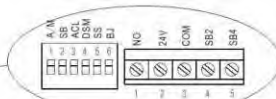

FIGURE 5. ATTACHING STRAIGHT TOWING ARM
- To access the Dipswitches and Accessory Connectors remove the Control Box cover (Figure.5) by first removing the fixing screw, located under the light cover and then pulling outwards and upwards, on both sides of the cover, at the location marked by the arrow